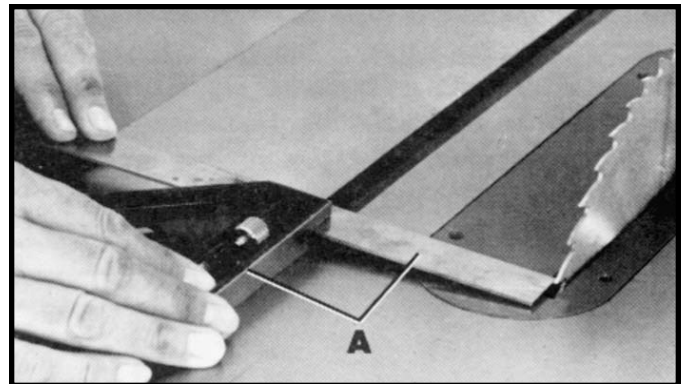

Fig. 124
2. Place a combination square (A) Fig. 124, on the table with one edge of the square in the miter gage slot, as shown, and adjust the square so the rule just touches one of the teeth on the saw blade at the forward position, as shown in Fig. 124. Lock the square in this position.